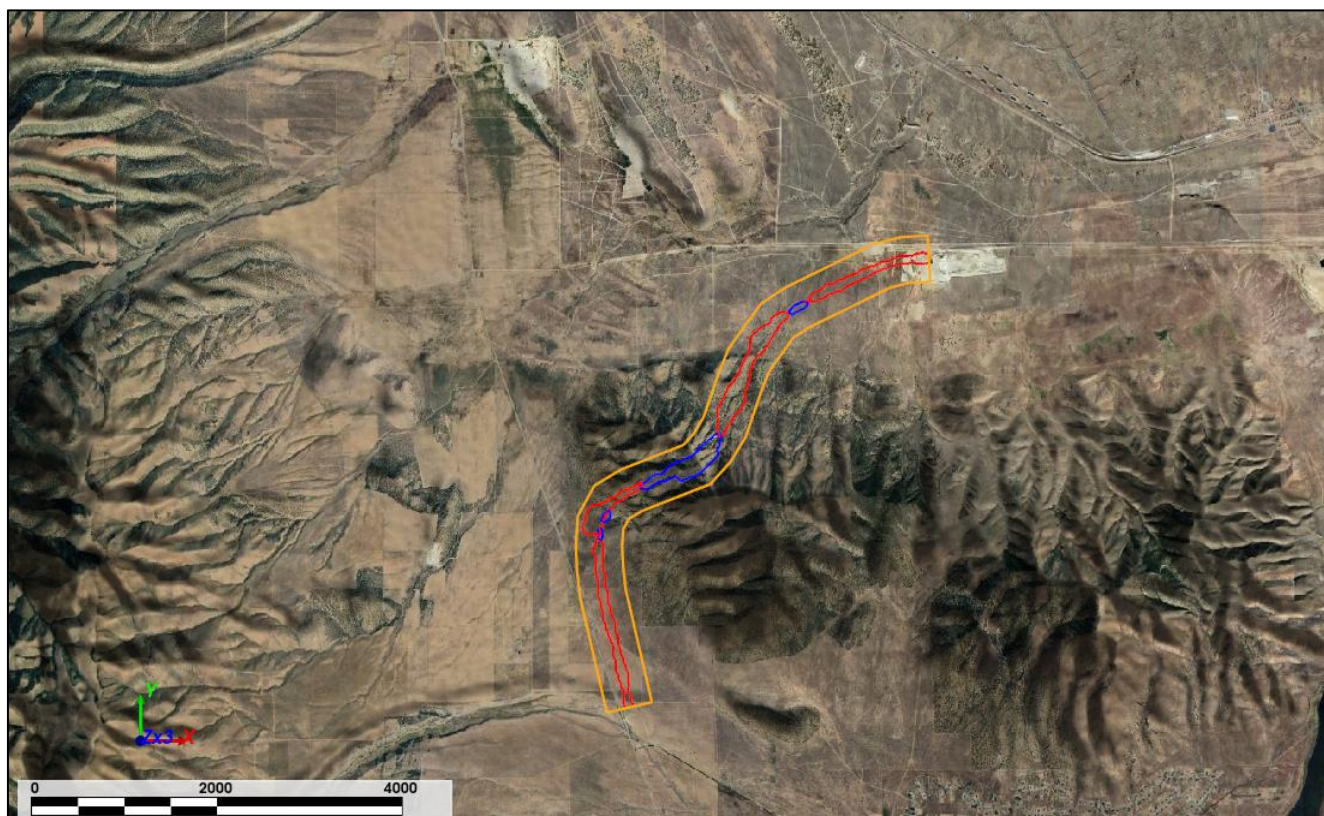

Figure 37: Alignment 3 - Cut and Fil footprints vs. ROW
- The Alignment 3 right of way corridor (orange), fill footprint (red) and cut footprint (blue) overlaid over the satellite imagery/grid can be seen in Figure 37 below.